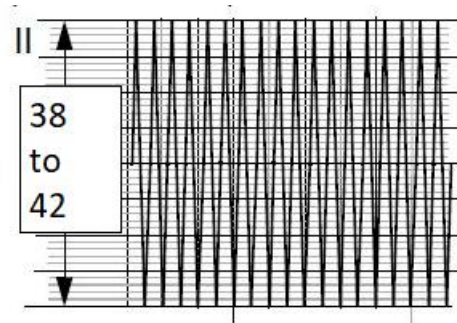

Figure 14
5. Locate the event created and confirm the printed signal amplitude is 38mm to 42 mm, peak-to-peak, as shown in the figure 14 below.